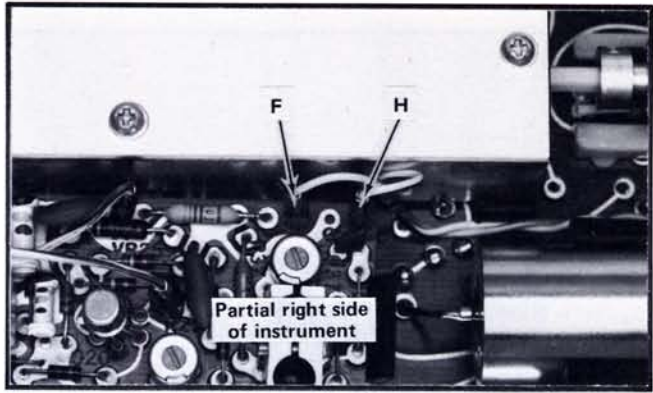

Fig. 5-3. Location of pins for Calibration Steps 8 and 9.
b. Connect the differential voltmeter between pins F and H at the rear of the External Input board. See Fig. 5-3 for location of pins.